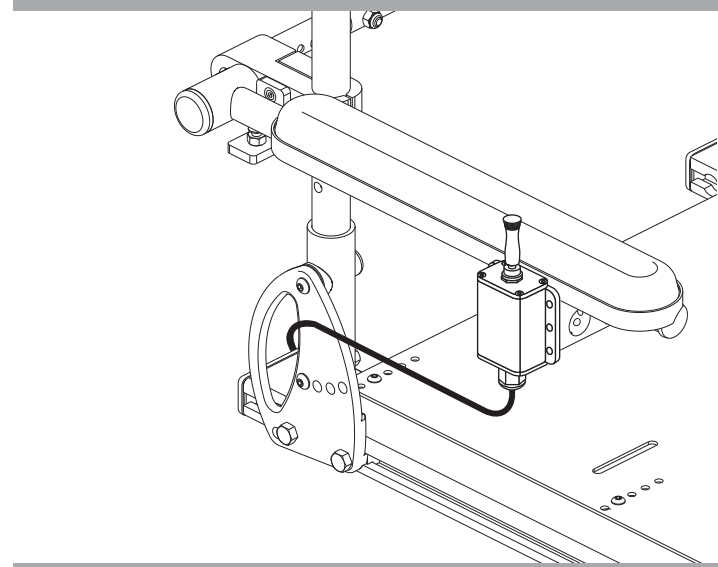

Figure 19. Power Seat Toggle Switch
1. Press forward on the toggle switch to raise the seat. See **figure 19**.